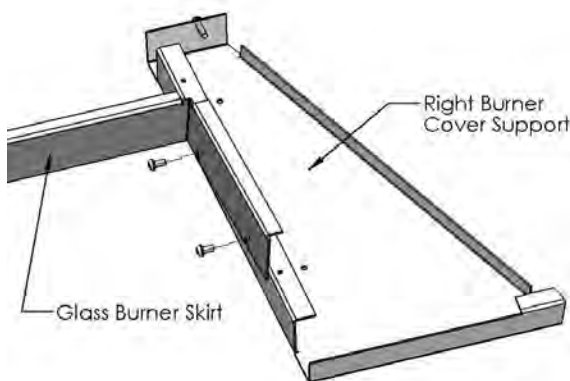

Figure 84: Porcelain Light Covers Close-up.
9. Attach the Glass Burner Skirt to the Right Burner Cover Support using two (2) T-20 Torx screws supplied (see Figure 84) and do the same to the Left Burner Cover Support as you've done on the right side.